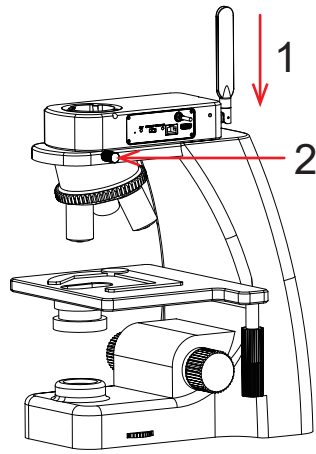

Figure 9
- 1) Snap the WiFi embedded camera to the objective end of the microscope, oriented as in Figure 9;